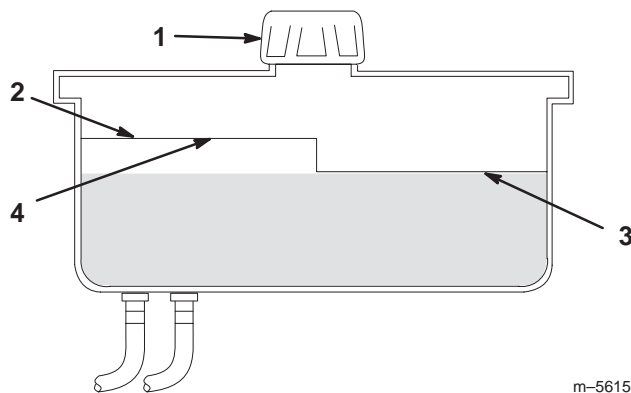

Figure 49
2. Clean area around filler neck of hydraulic tank (Fig. 49).
3. Remove cap from filler neck. Look inside to check if there is fluid in the reservoir. (Fig. 49).
Note: The fluid level should be to the top of the **hot** level of the baffle, when the fluid is warm (Fig. 49).